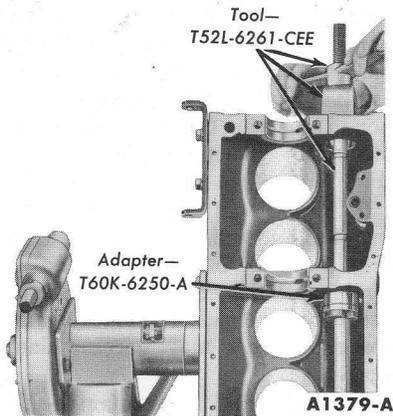

FIG. 85—Camshaft Bearing Removal or Installation
2. Remove the camshaft bearings (Fig. 85).
3. Position the bearings in the bearing bore and press them into place (Fig. 85). **No. 1 camshaft bearing must be pressed in 0.100-0.140 inch below the front face of the bearing bore. Press the remaining bearings in sufficiently to align the oil supply holes. The No. 4 bearing has two oil holes.**
23. Remove the camshaft bearings (Fig. 85).